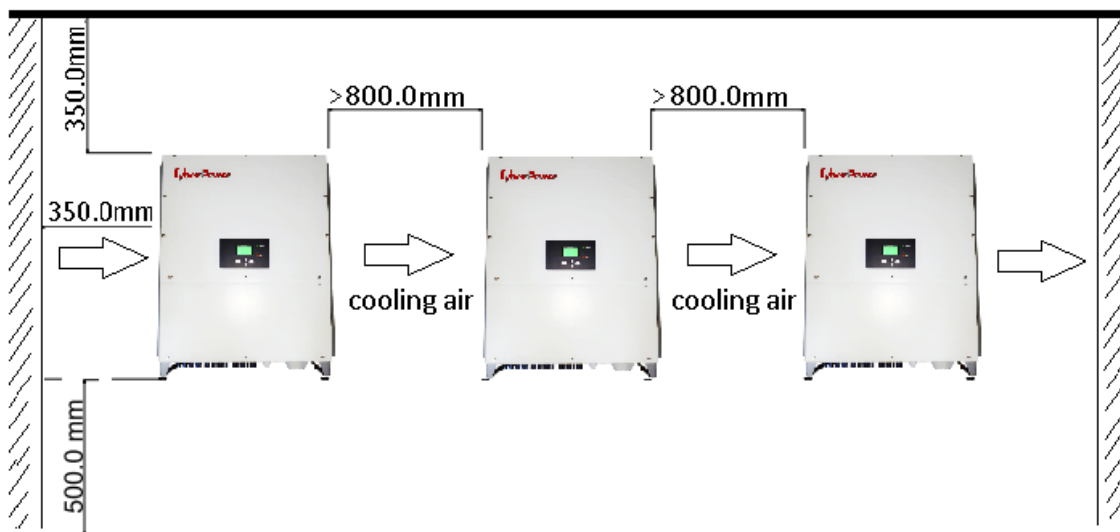

Fig. 5.9
- 10) Notice the minimum clearances between inverters should be at least 800mm. (Refer to 3.3 Dimensions and Fig.5.9 Required Clearances).